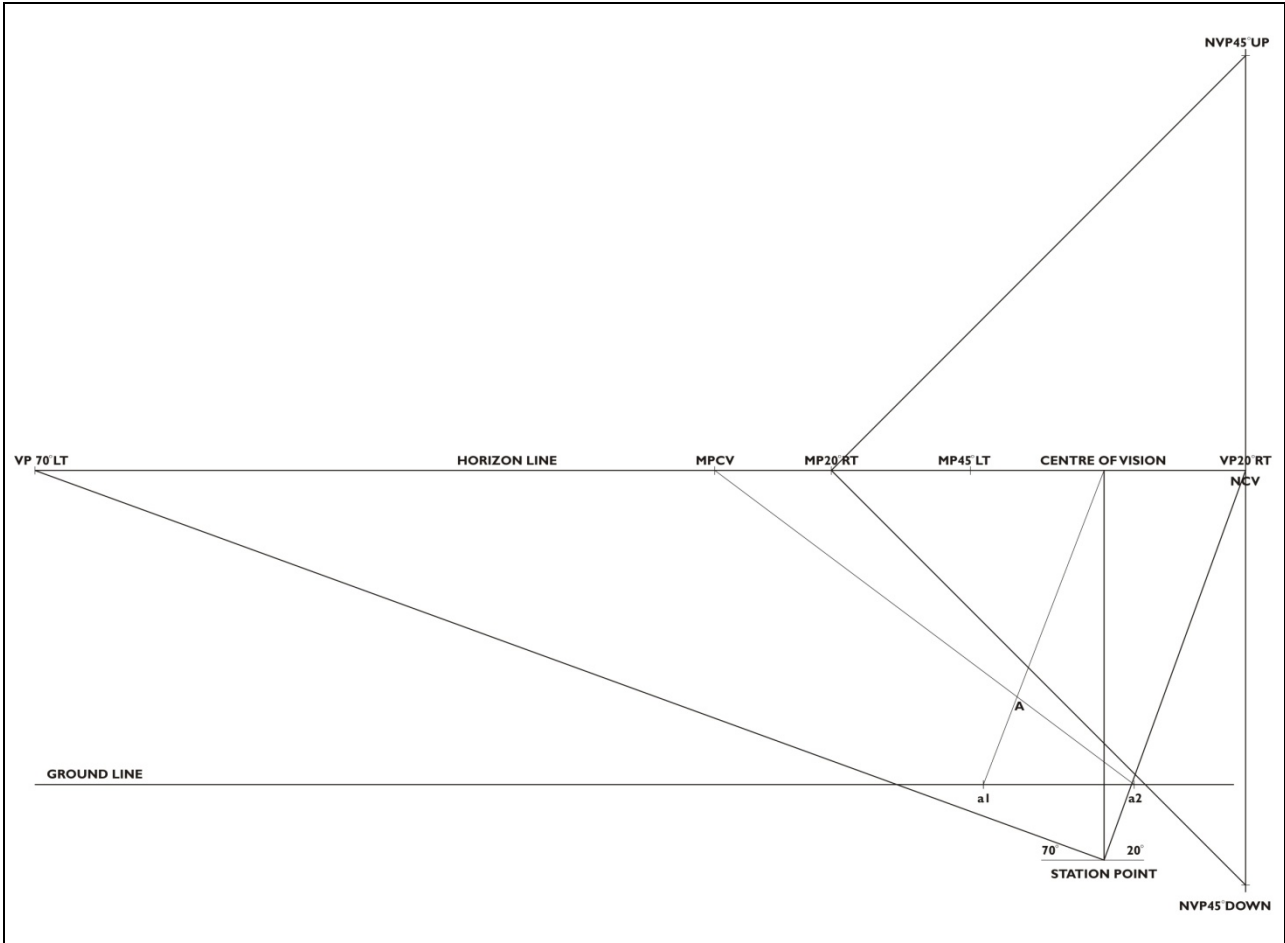

Figure 5.4 Construction of Three-Point Perspective Grid
2. Establish the MPCV by projecting a line at a 45° angle from the Station Point to the Horizon Line. Refer to Figure 5.4.